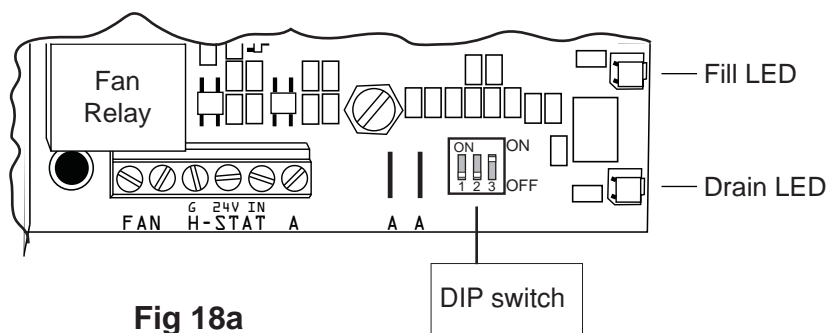

Fig 18a
18.5 Adjusting the DIP switches, located on the lower right corner of the circuit board (see Fig 18a), will change how the humidifier determines automatic tank flushes. The humidifier will completely drain and refill with fresh water after a set number of "refill cycles". **Every time the unit replenishes the tank while producing steam is counted as one cycle.** The table below shows how to set the DIP switches in order to make the unit flush the tank at different intervals. To keep deposits in the tank to a minimum, by factory default the tank will flush every 30 cycles which equals approximately 5 hours of operation. Choose the cycle setting best suited to the hardness level of the supply water.